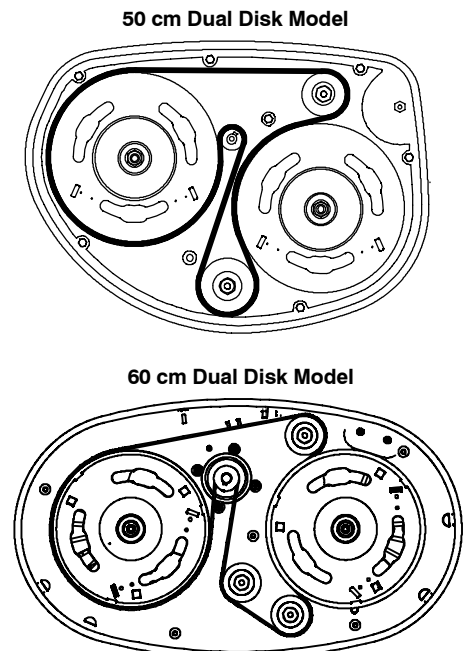

FIG. 69
- Route the new belt as shown (Figure 69).